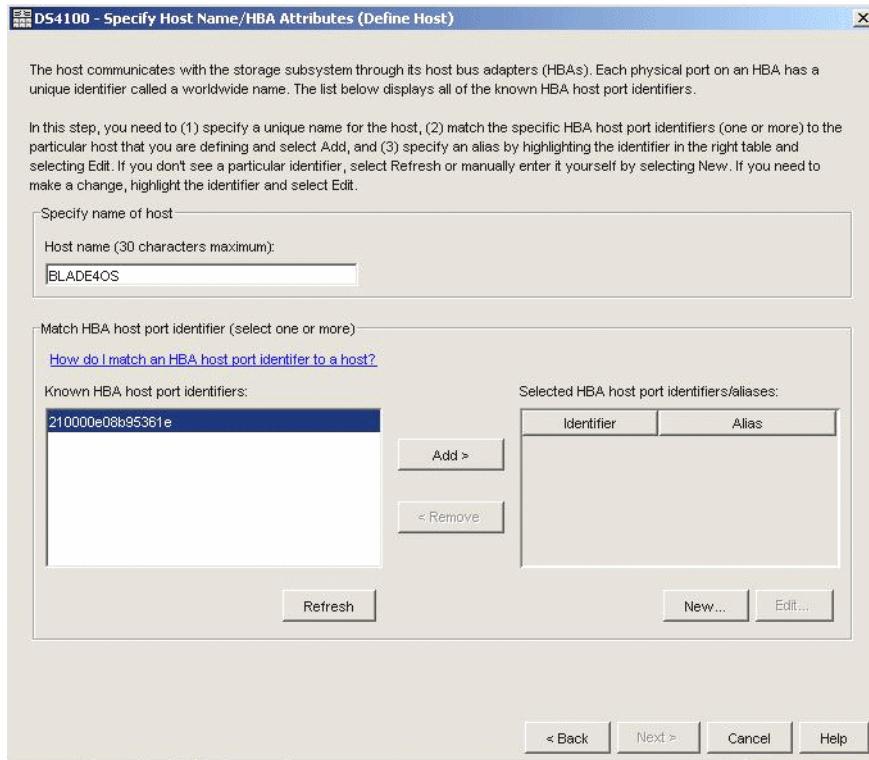

Figure 9-48 Specify Host Name/HBA Attributes (Define Host) window
17. Select **Yes** and click **Next** to use the storage partition on the selected subsystem. You will see a window similar to Figure 9-48.